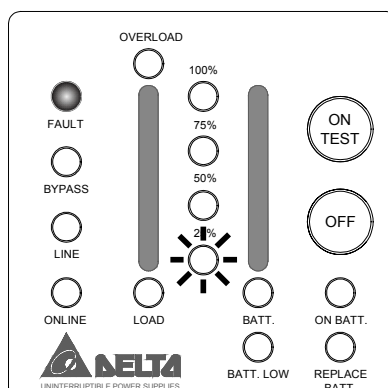

Figure 3-17 (DC BUS U.V.P.)
- ✓ When under (or over) bus voltage is happened in the UPS and is so-called **“Bus U.V.P”** (**“Bus O.V.P”**). Show as Figure 3-17, 3-18.